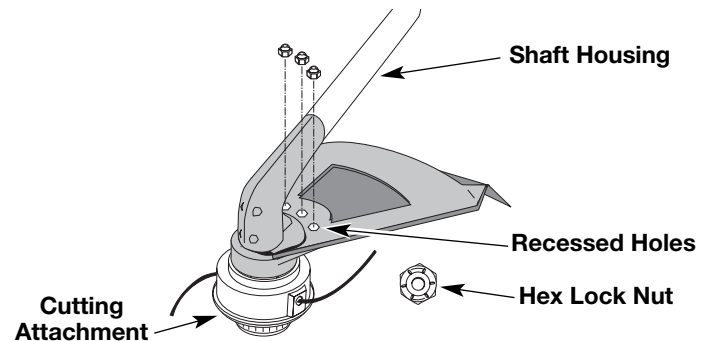

Fig. 4
2. Place one of the three (3) supplied hex lock nuts into one of the three recessed holes on the top of the cutting attachment shield (Fig. 4).